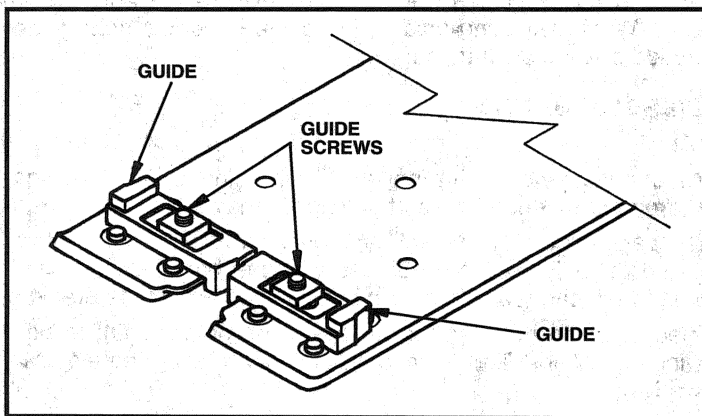

Fig. 1
1. Loosen two guide screws, Fig. 1, with a screwdriver.
7. Slide both blade guides, Fig. 1, towards blade until they lightly contact the sides of the blade, then back the guides off to produce paper thickness clearance per side.
5. If necessary adjust blade guides, Fig. 1, as outlined under INSTALLING PORTER-CABLE “HOOK” BLADES, steps 7 and 8.